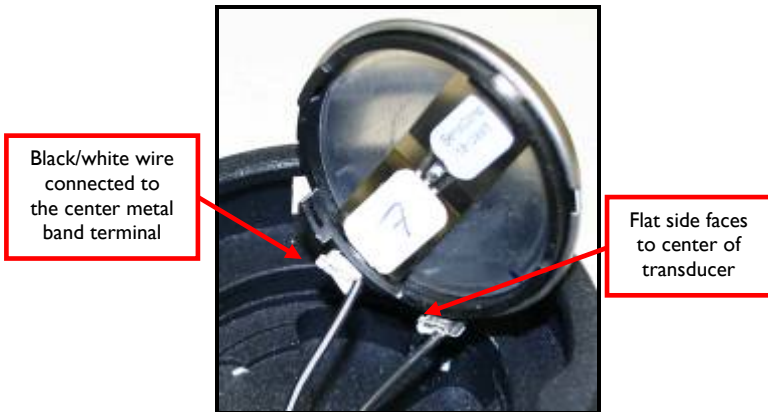

Figure 11: Transducer Wire Connection
3. Attach the spade-end connectors of the wires to the new transducer as shown in **Figure 11**.